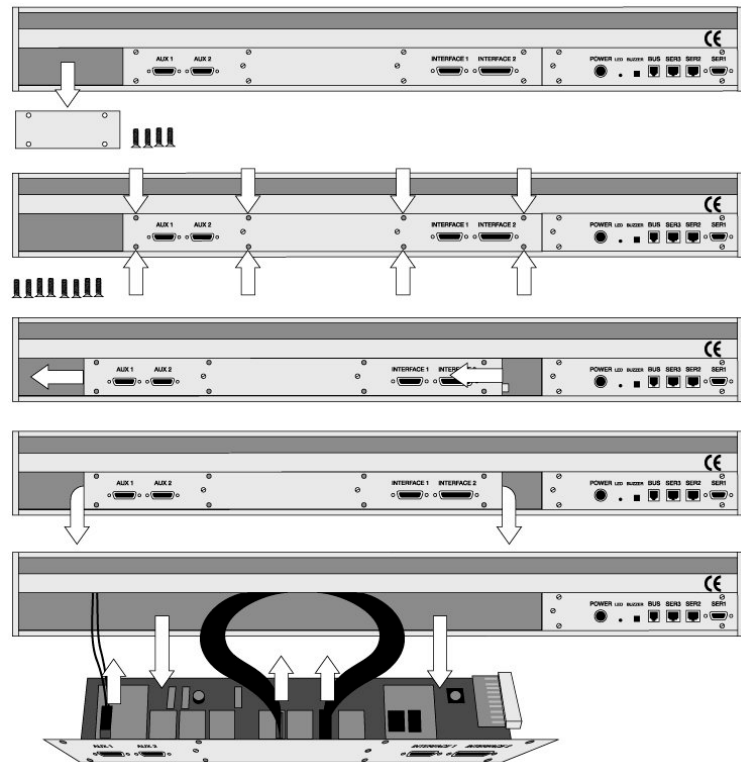

Figure 56. Replacing MOTIO Board
1. Follow the sequence shown in Figure 56 to detach and release the MOTIO board from its position inside the X-axis.